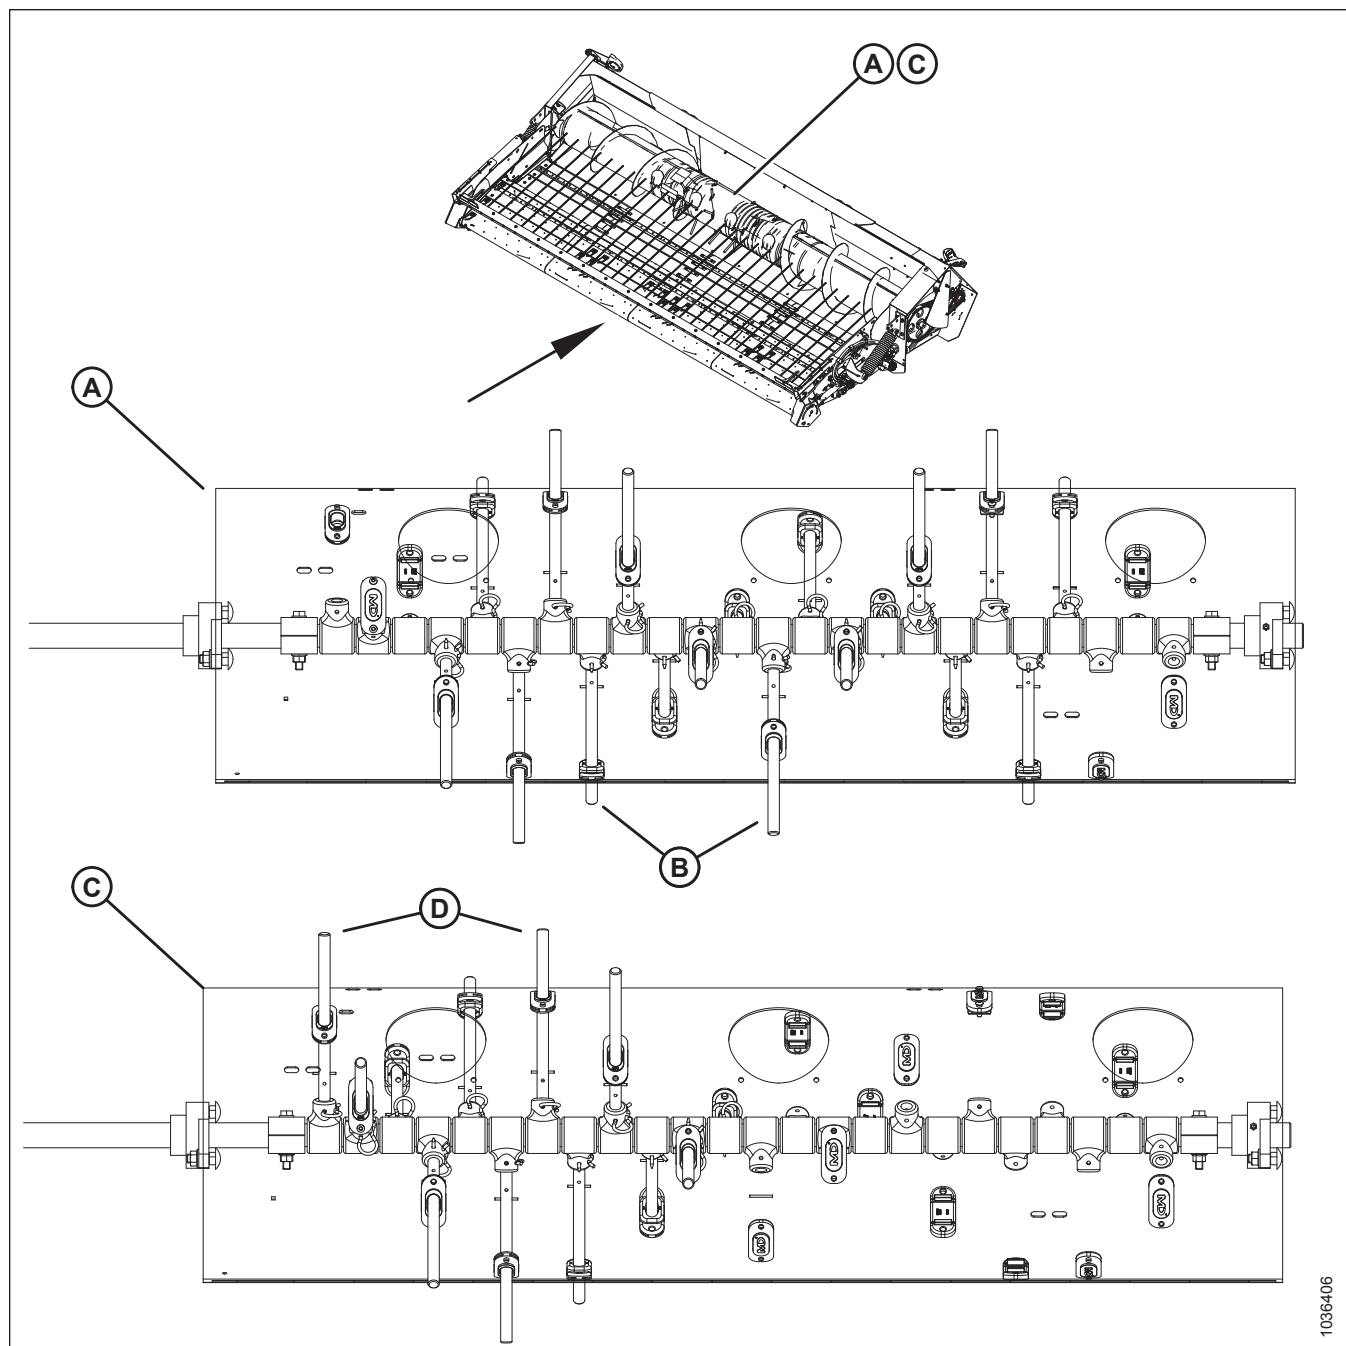

Figure 4.43: Auger Finger Installation Locations
6. Repeat Step 2, page 46 to Step 5, page 46 for the remaining locations. For an illustration of the locations, refer to Figure 4.43, page 45.
10. Repeat Step 7, page 46 to Step 9, page 46 for the remaining fingers. For an illustration of the locations, refer to Figure 4.43, page 45.